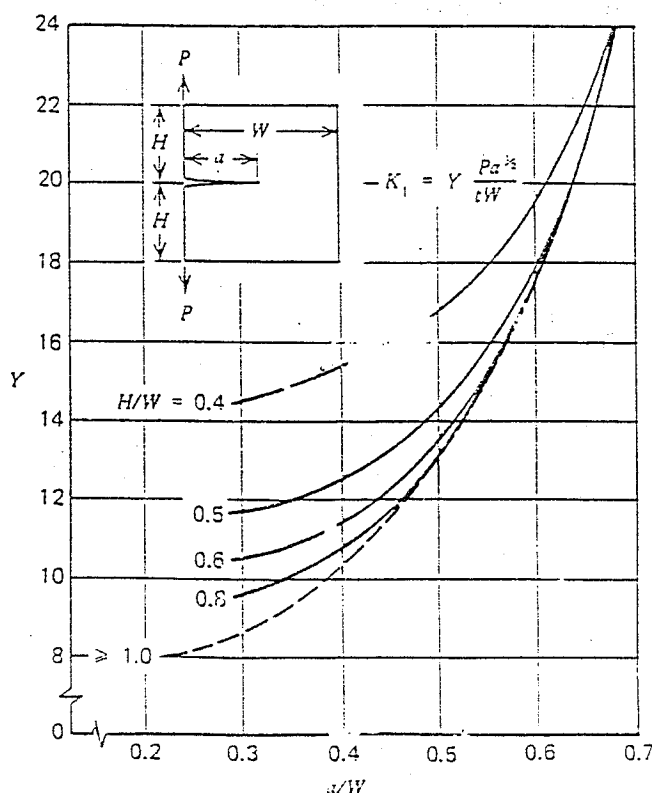

FIGURE 1(a)
- (i) Recommend a force amplitude and number of cycles to extend the crack by 5mm, given the experimental crack growth data in Figure 1(b) (15)
- (ii) What value of Mode I fracture toughness, K_{IC} , is indicated by a static fracture load of 192 kN? (5)